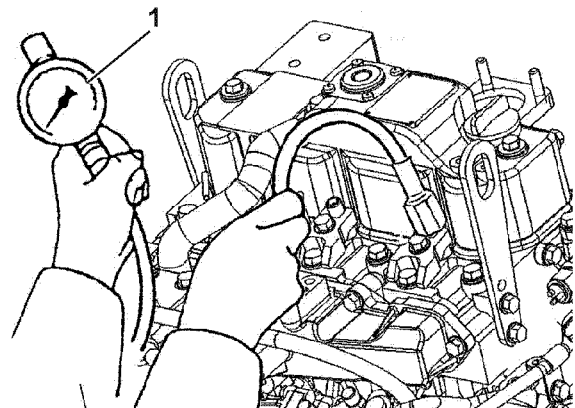
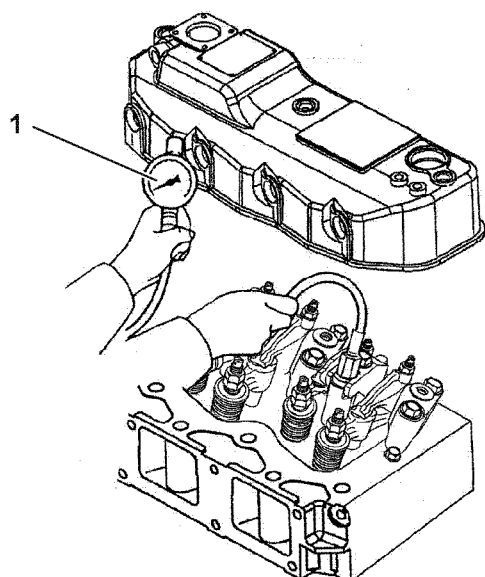

Figure 15-1
Figure 15-2
6. Before installing the compression gauge (1, **Figure 15-1**) 2 valve engine, (1, **Figure 15-2**) 4 valve engine) adapter, crank the engine with the stop solenoid disconnected for a few seconds to clear the cylinder of any residual fuel.